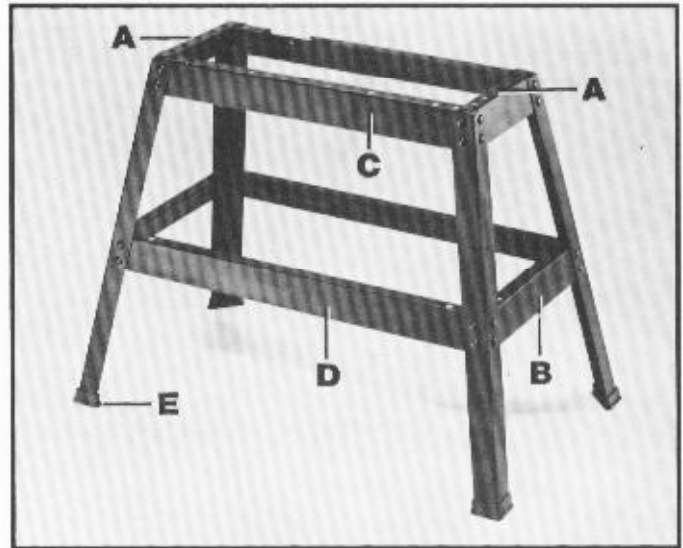

Fig. 3
1. Assemble the stand as shown in Fig. 3, by inserting the carriage bolts thru the rectangular holes with the heads on the outside and the washers and nuts on the inside. Do not tighten the hardware completely at this time.
2. **IMPORTANT:** The top flanges of end brackets (A) and (B) Fig. 3, should fit over the top flanges of side brackets (C) and (D).
3. Assemble the four rubber feet (E), to the bottom of each leg as shown in Fig. 3.